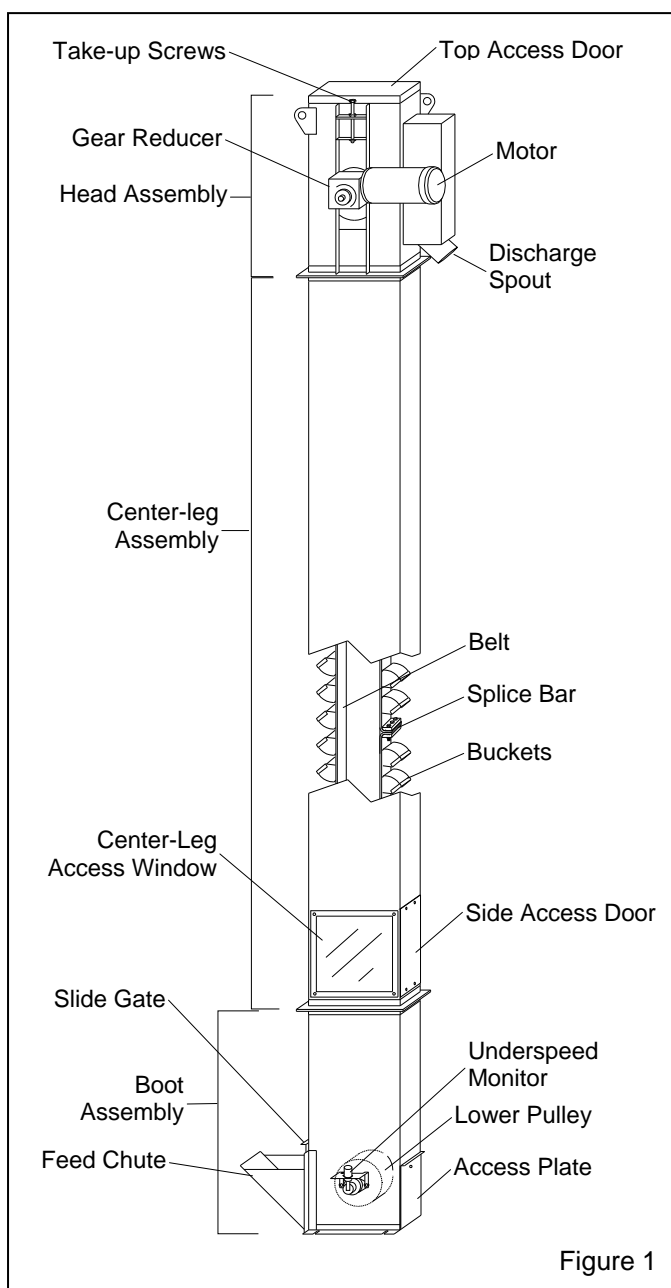
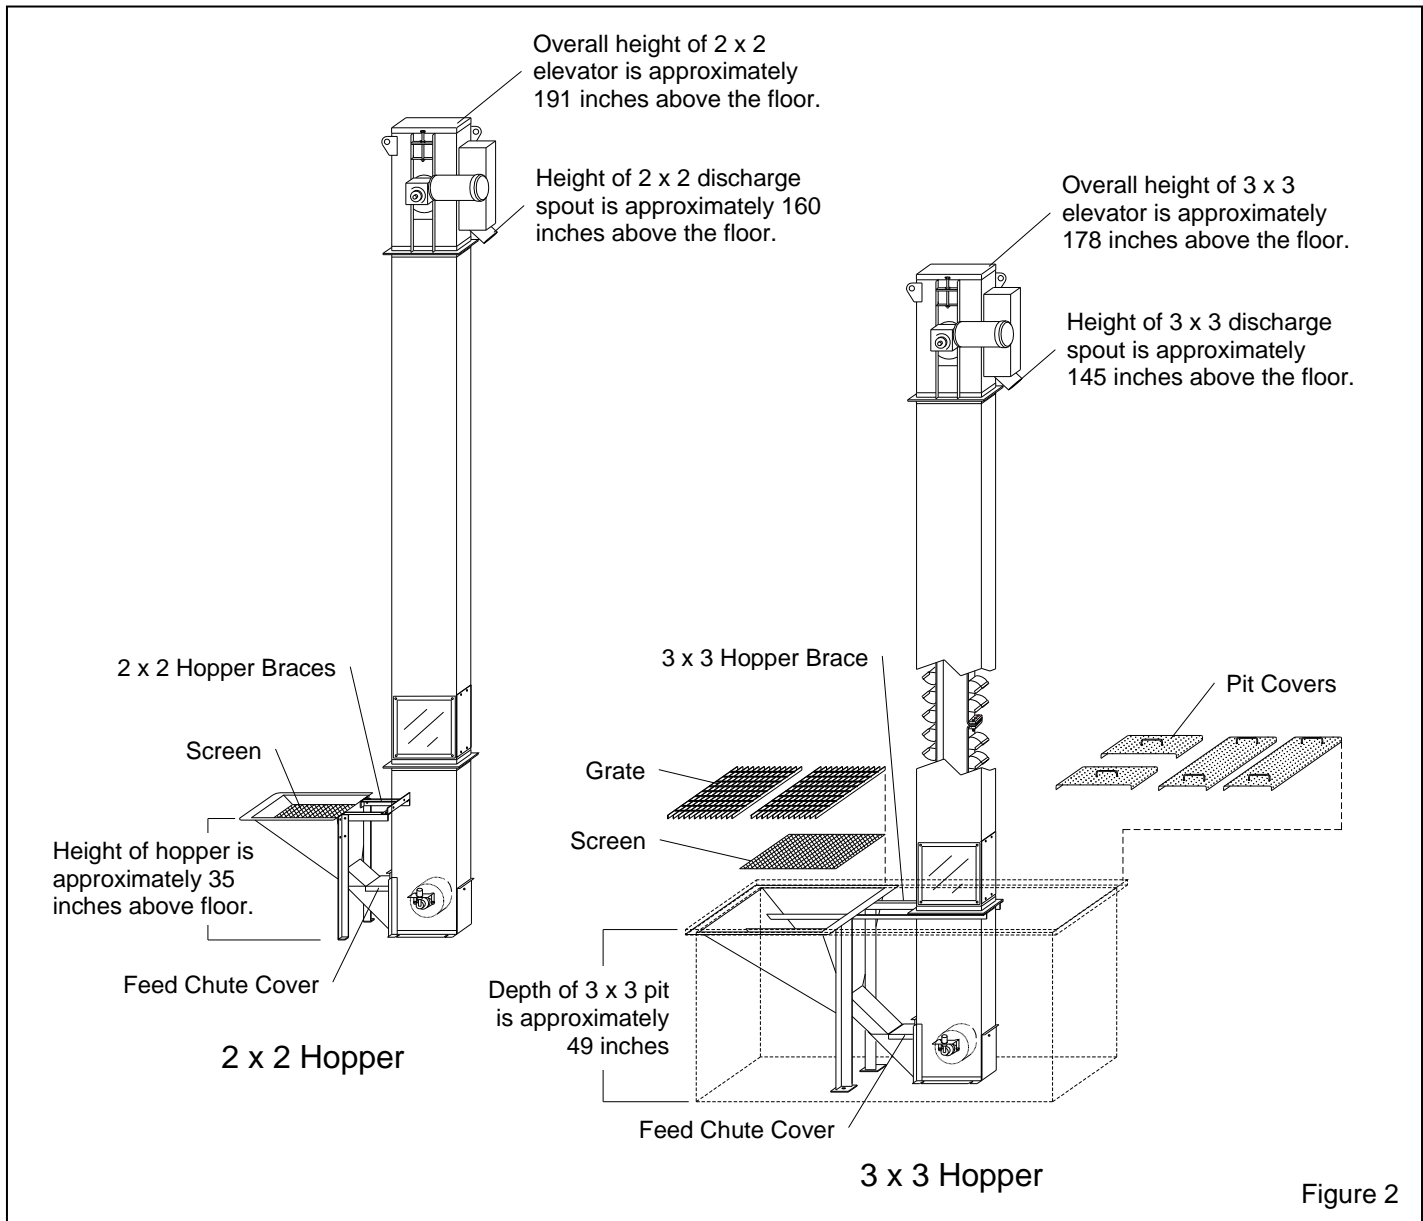

Figure 1
Figure 2
1.3.1 Hopper recovery systems include a shovel-in, surface-mount hopper (2 x 2 system) or sweep-in, floor-level (3 x 3 system) hopper, and bucket elevator. The components of the bucket elevator are shown in Figure 1; their functions are explained in Paragraphs 1.6 through 1.9. The components of the 2 x 2 and 3 x 3 hoppers are shown in Figure 2.